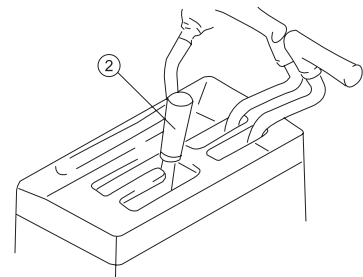

Figure 2-4
The gear shift lever (2) (Figure 2-4)